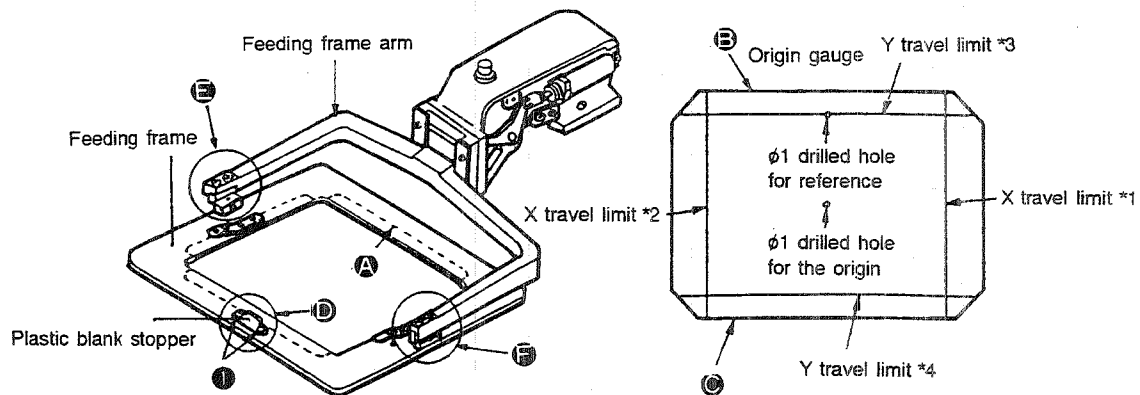

Fig. 5-33-1
- 2) Set the origin gauge within the feeding frame with section ③ of the origin gauge (set the $\phi 1$ drilled hole on the handwheel side for reference) closely pressed to section ① of the feeding frame. Then press the blank plastic stopper on to section ② of the origin gauge. Tighten setscrews ①. (Fig. 5-33-1)
- 2) Press jog keys 4 ◀ and 6 ▶ on the operation panel to move the feeding frame to the right or left so that the needle point stops on the X travel limit of the origin gauge. (± 1.5 mm (0.059")) (Error indication 4 will be shown.) (Fig. 5-33-1, Fig. 5-33-3)
- 4) Press jog keys 8 ▲ and 2 ▼ on the operation panel to move the feeding frame forward and backward so that the needle point stops on the Y travel limit of the origin gauge. (± 1.5 mm (0.059")) (Error indication 4 will be shown.) (Fig. 5-33-1, Fig. 5-33-3)